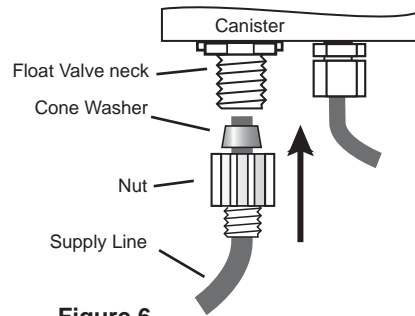

Figure 6
8) Roughen the surface of the last 2 inches of the Supply Line (the left-over tubing from Step 6) by rubbing it with sand-paper or steel wool and slide it through the Nut and the Cone Washer (see Figure 6) and insert it into the end of the Float Valve neck. (Make sure the Cone Washer is oriented as shown.) Tighten the Nut securely.